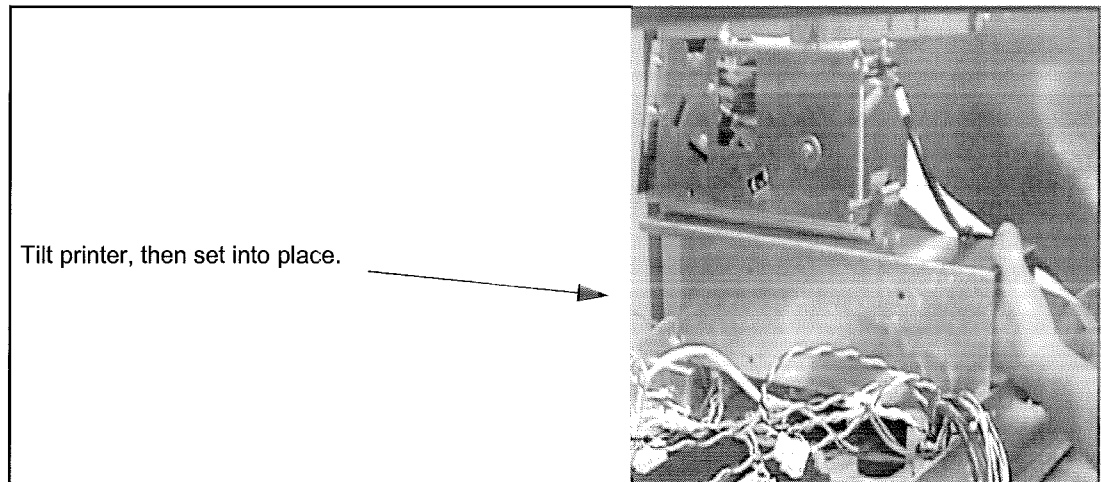

Figure 2-5 Installing Side 2 Printer Assembly
2. Facing side 1, with the front of the printer oriented away from installer, insert side 2 printer into the right side of the pump head by tilting to side then setting into place. See Figure 2-5.